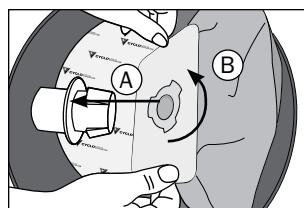

figure 20
4. Ensure adequate sealing by inserting bag as far as retention ring (**figure 20 - A**).
Rotate bag 20° (**figure 20 - B**) to ensure tabs on bag adaptor are no longer aligned with the slots in the bag collar.